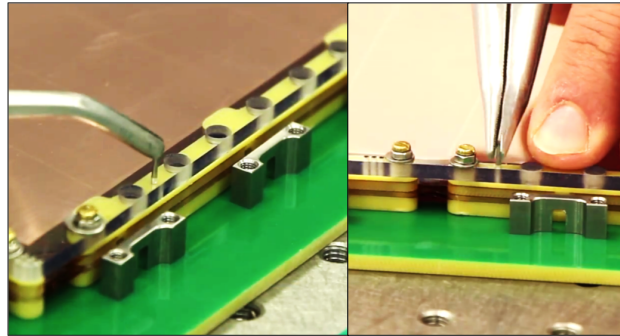

Figure 93: Removing the guiding pins (1).
Step 8: Use tweezers to remove the guiding pins left in the frame stack (Fig. 93).